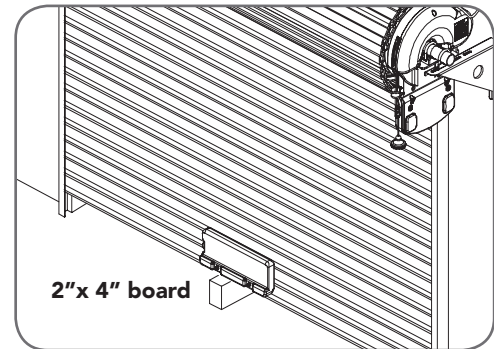

Fig.6.8.2
- Place an object approximately 1-1/2" (38mm) high (or a 2"x 4" board laid flat) on the floor under center of garage door opening (Fig.6.8.2).
- While holding down the FORCE MARGIN SET button, press the SET button (Fig 6.8.2) for two seconds.